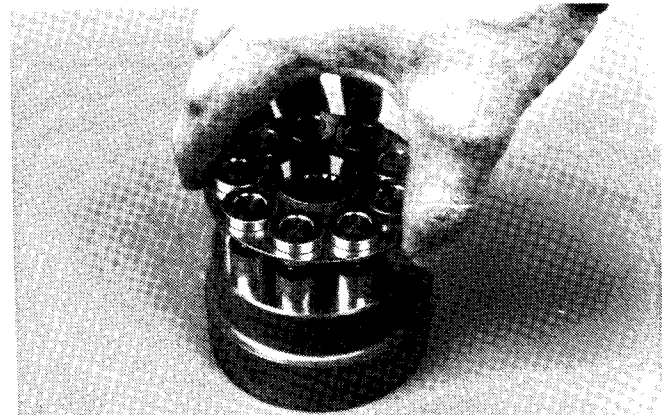

Figure 69
14. Assemble each cylinder block kit by installing piston assemblies into the slipper guide. Lubricate pistons and cylinder block bores. Install assembled guide and pistons into cylinder block by inserting pistons into cylinder block bores (Fig. 69). The pistons and bores are not selectively fitted, so no specific piston and bore orientation is required.